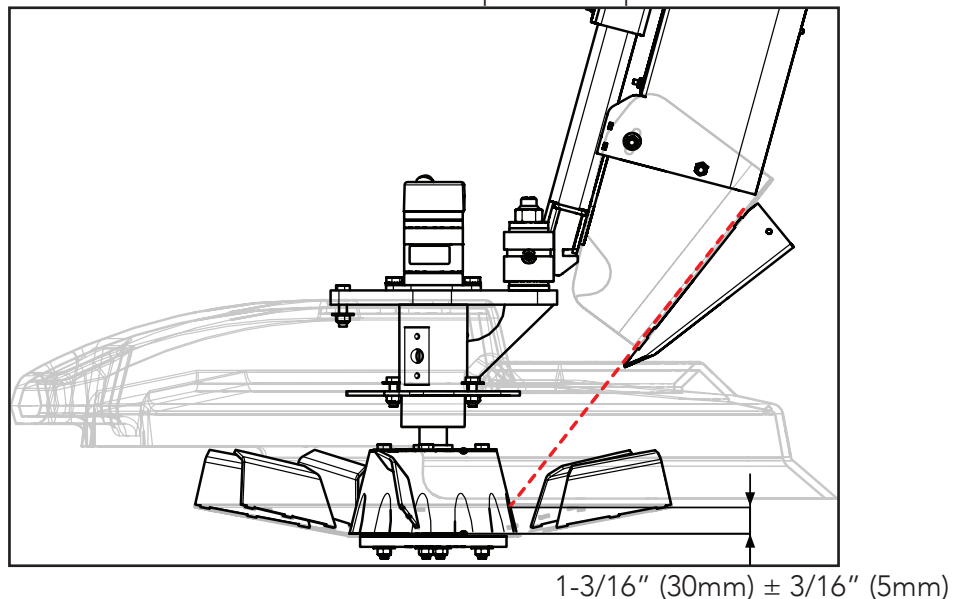

Figure 2 - Drop Point
3. Figure 2 - Measure the distance between where the strip hits the spinner hub and the base of the hub.
To set liquid valve, turn handle to proper position as referenced below in Figure 2.